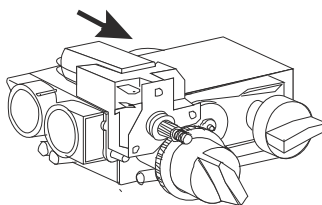
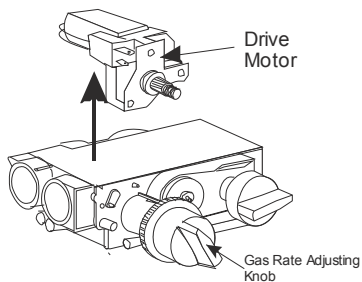

Figure 54
Figure 55
6. Turn the gas rate adjusting knob fully anticlockwise and gently manipulate the motor free from the valve (see note). (See **Figure 54** and **Figure 55**).